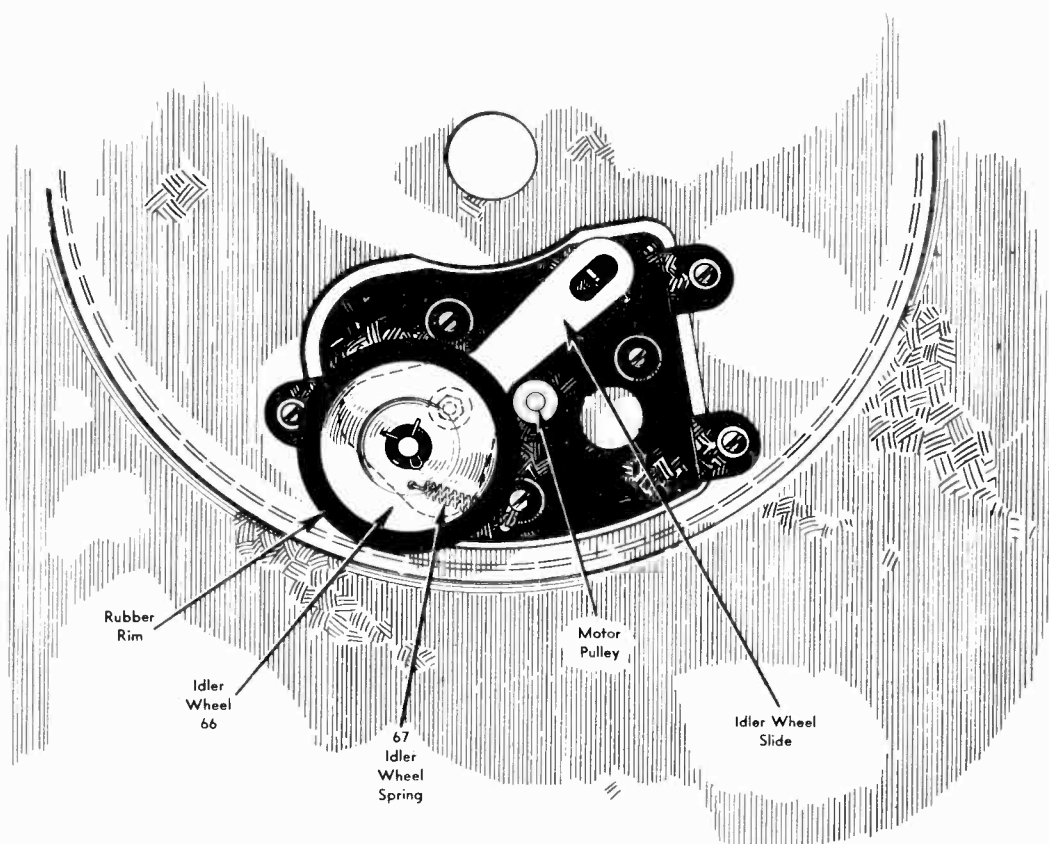

FIG. 34. CUTAWAY—TOP VIEW
2. During playing cycle, idler wheel slide should move freely and its spring tension must be positive so that idler wheel maintains constant contact with turntable rim and motor pulley. (See Fig. 34, page 25.)
3. Idler wheel mounting and slide should move freely. Spring tension on slide must be maintained. Oil slide sparingly if necessary. (See Fig. 34.)